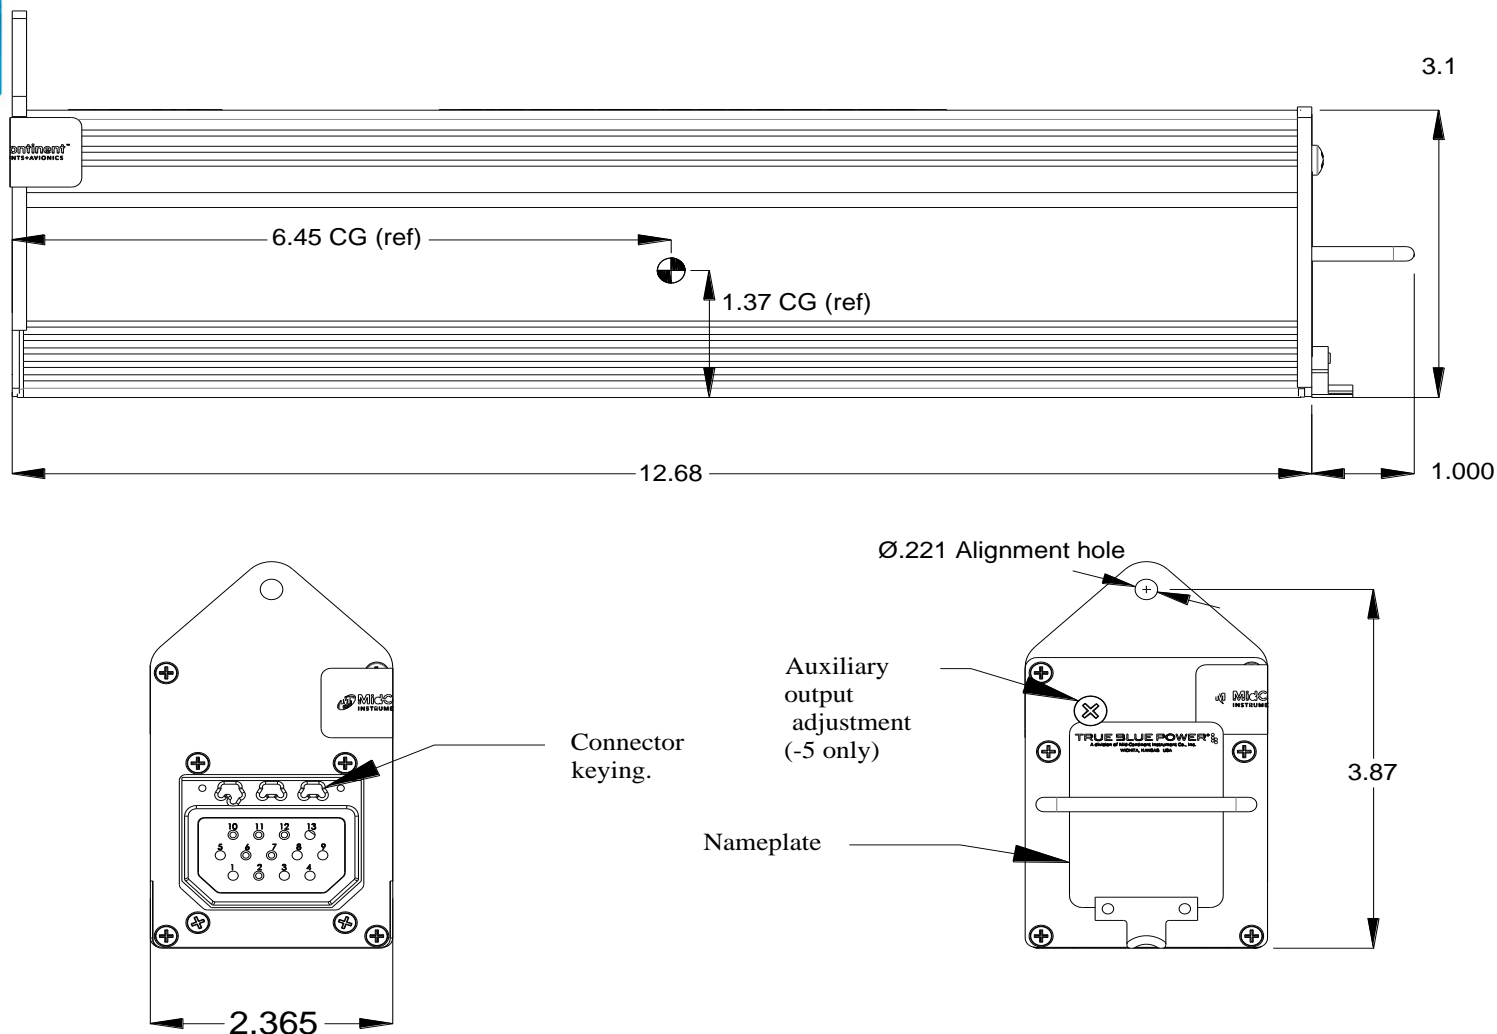

Figure 2.2 TS835 Outline Drawing
| Dimensions (see Figure 2.2) | 12.7 inches long max. (+1 inch for handle) 3.1 inches high max. (excluding rear tab) 2.3 inches wide max. |
- C. For MD835-5 version, set the output voltage (3.0-5.5V) of the Auxiliary Power Supply by gently turning the adjustment screw accessed through the front of the unit. See Figure 2.2.